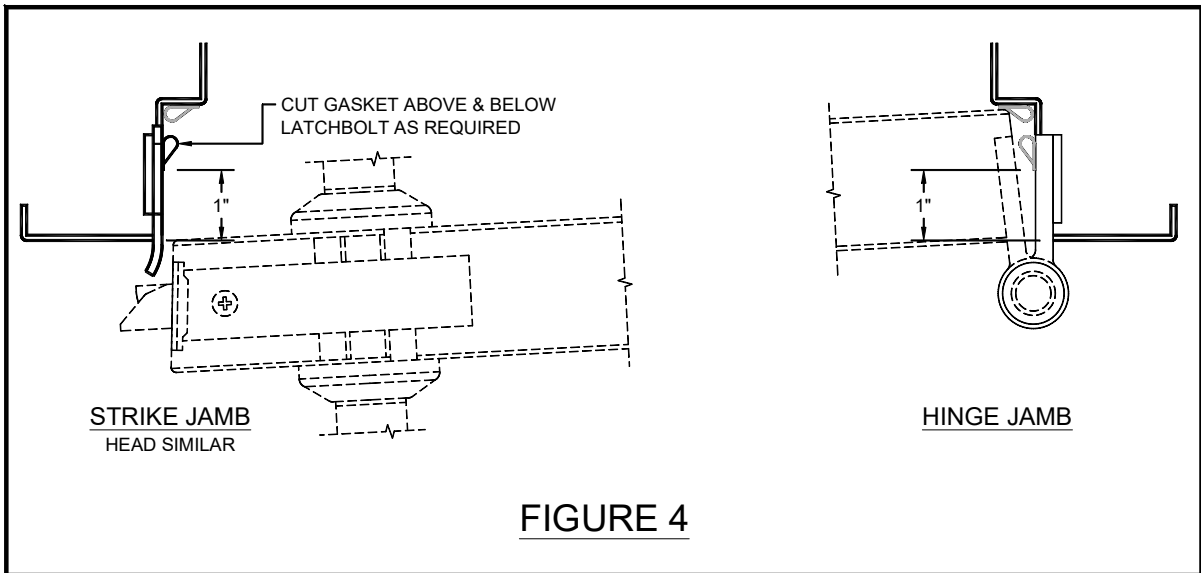

FIGURE 4
To move the door away from the hinge jamb, see Figure 4 and follow these steps:
- A. After the frame and door(s) have been finished painted, swing door(s) to full open position. Locate the two packages of bubble seal. Measure the jamb opening width at the head. Cut two pieces of bubble seal, one piece from each roll, and install as the frame as shown in Figure 4.
- B. Measure the jamb opening height from the head of the frame to the top of the finish floor (or the top of threshold, if present). Cut four pieces of bubble seal, two pieces from each roll, and install as the frame as shown in Figure 4.